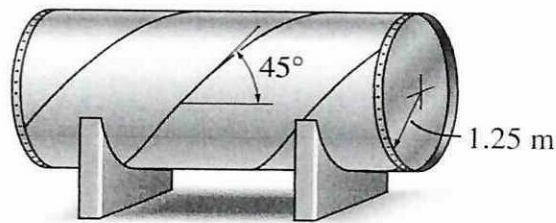

Figure Q1
- Q1** The cylindrical pressure vessel shown in **Figure Q1** has an inner radius of 1.25 meter, 15 mm wall thickness and butt welded seams forming an angle $\beta = 45^\circ$ with a transverse plane. The cylindrical pressure vessel is subjected to an internal pressure at gauge pressure of 8 MPa.